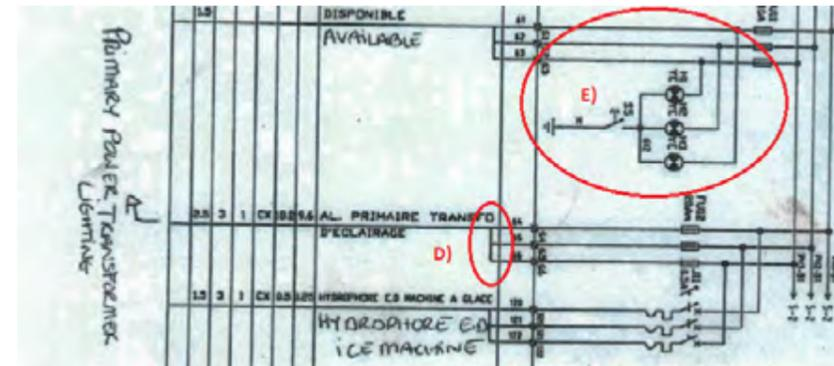

Figure 5: MSB 380-volt Distribution.
d. The 220-volt supply is transformed from the 380-volt network, and there has been no design consideration of decommissioning the 380/220-volt transformer and how to establish a neutral conductor in the 220-volt network (Fig. 5).
e. The earth lamp testing circuit should have been removed if the 380-volt network was modified to a TN-S network (by adding a neutral). Leaving this test arrangement in the circuit would create a circuit fault and trip RCDs whenever the test button is depressed (Fig. 5).